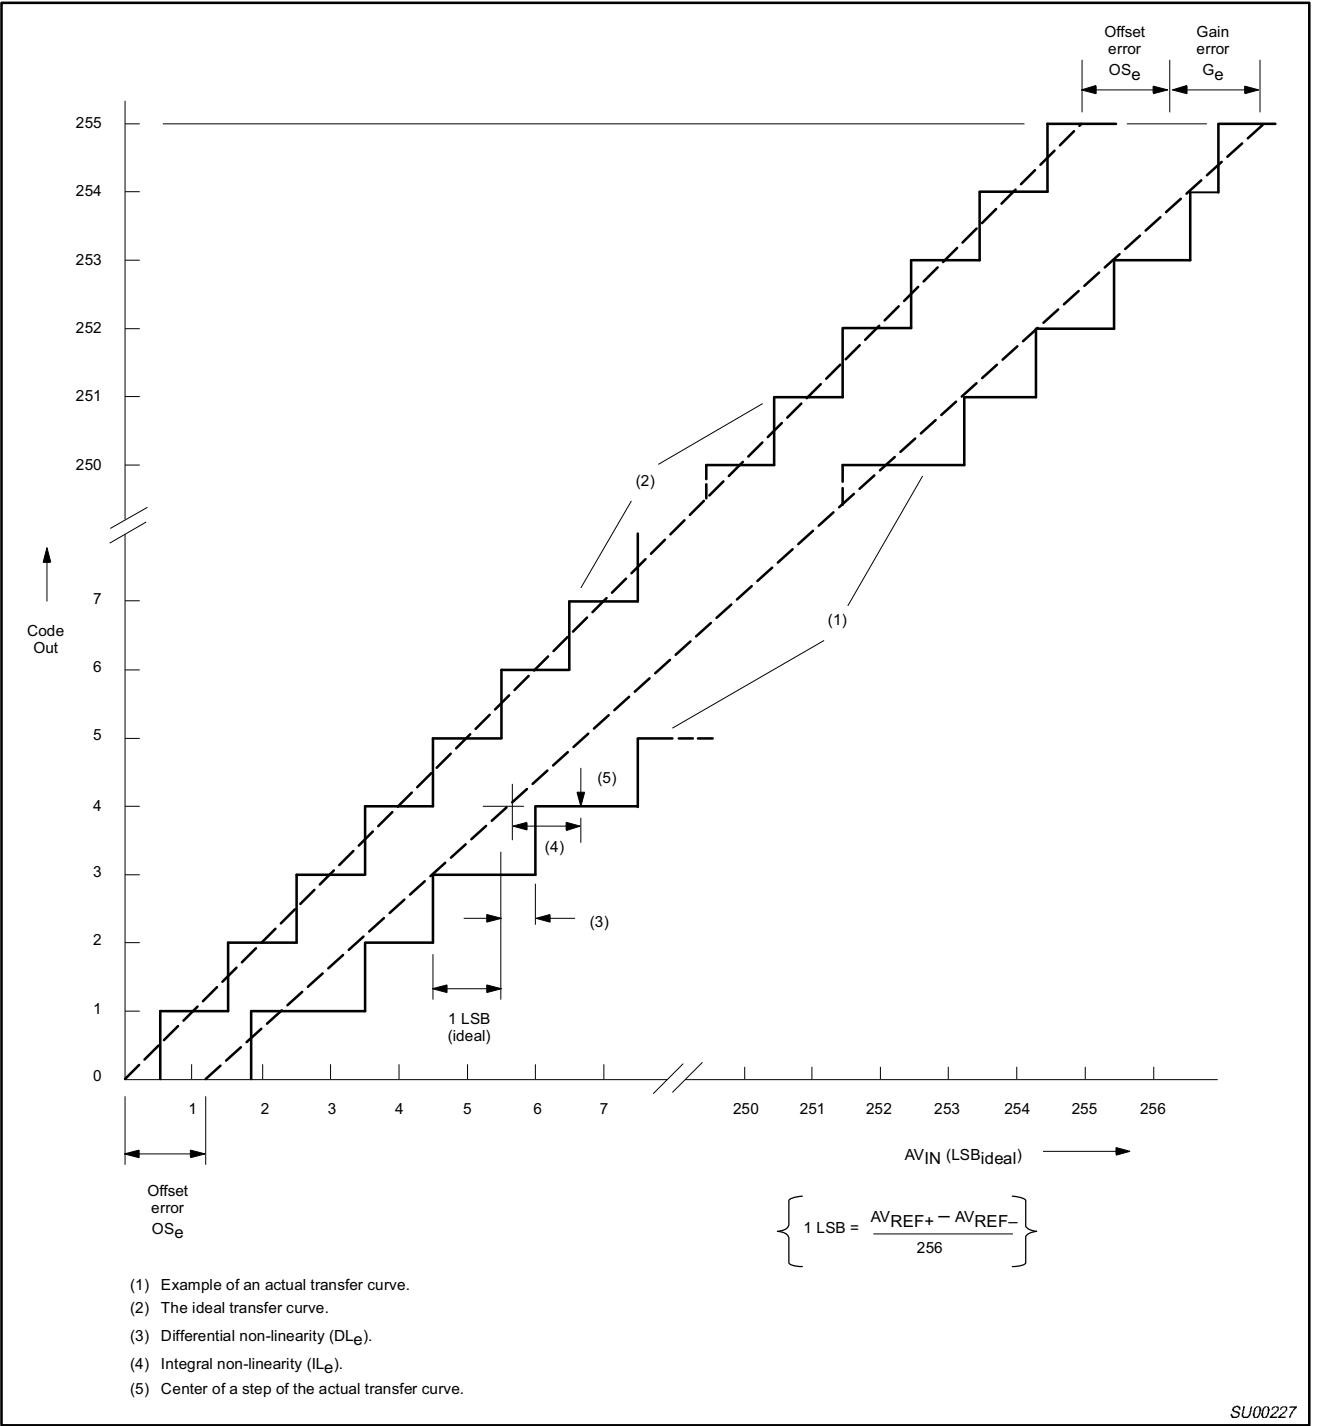

Figure 1. ADC Conversion Characteristic
- The differential non-linearity (DL_e) is the difference between the actual step width and the ideal step width. (See Figure 1.)
- The integral non-linearity (IL_e) is the peak difference between the center of the steps of the actual and the ideal transfer curve after appropriate adjustment of gain and offset error. (See Figure 1.)
- The offset error (OS_e) is the absolute difference between the straight line which fits the actual transfer curve (after removing gain error), and a straight line which fits the ideal transfer curve. (See Figure 1.)
- The gain error (G_e) is the relative difference in percent between the straight line fitting the actual transfer curve (after removing offset error), and the straight line which fits the ideal transfer curve. Gain error is constant at every point on the transfer curve. (See Figure 1.)